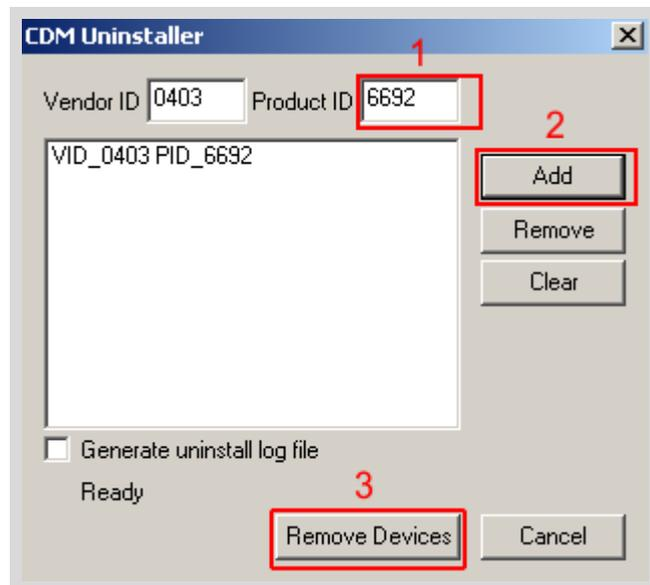

Figure 12 The Drivers are uninstalled by the CDM Uninstaller software
- Change the PID to 6692(Figure 12).